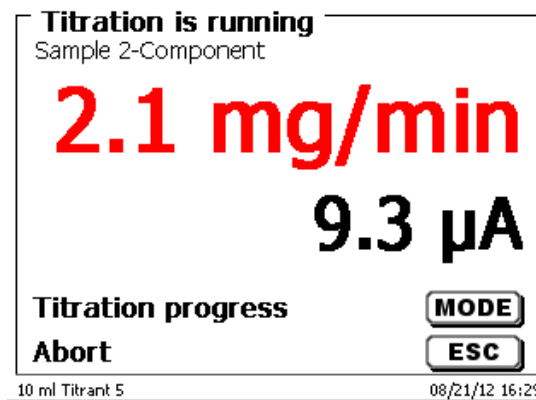

Fig. 70
- or the drift with the measured value in μA (Fig. 70),